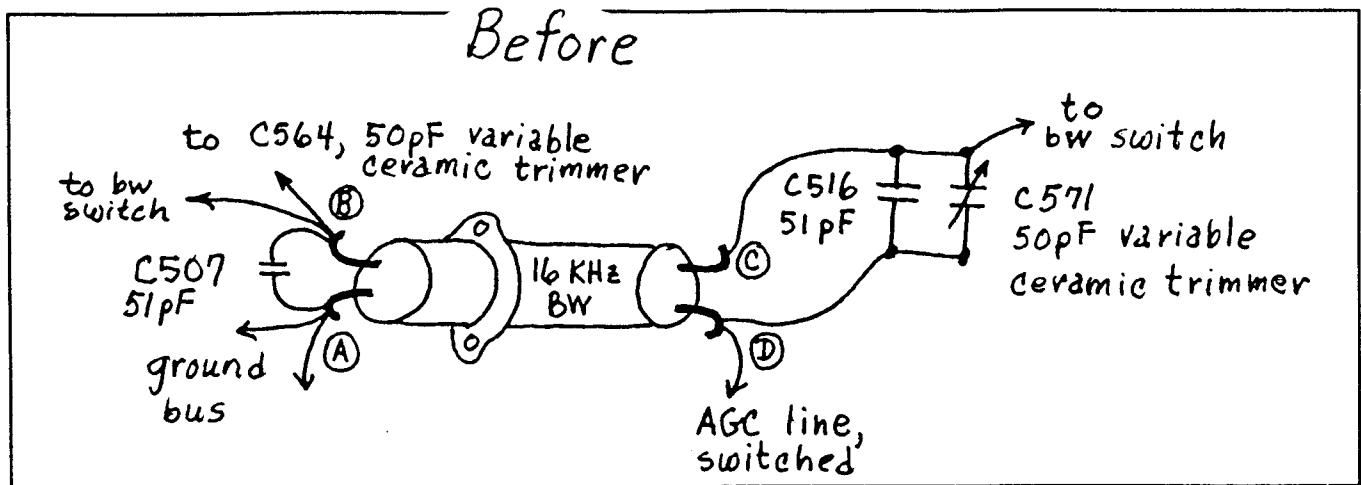
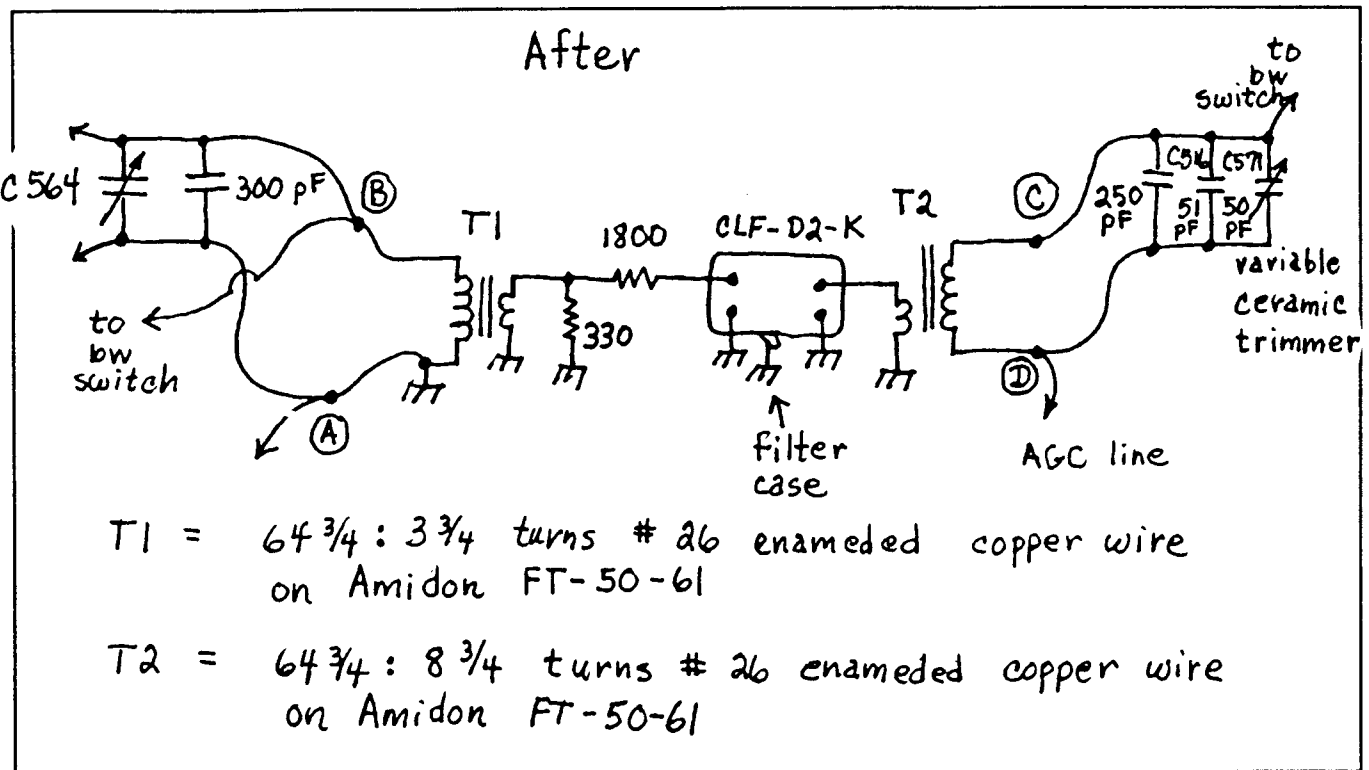

Figure 1
Figure 2
For a 3 KHz filter, I decided to use one of Kiwa Electronics (Craig Siegenthaler, 612 South 14th Avenue, Yakima, WA 98902, phone (509) 453-5492) CLF-D2-K filters. Putting this 3 KHz ceramic filter into an R-390A IF subchassis in place of the 16 KHz mechanical filter turned out to be a toughie. Two problems were encountered: reducing signal levels into the ceramic filter (the ceramic filter has much less loss than R-390A mechanical filters when properly impedance matched), and signal leakage. To equalize signal throughput, a resistor divider network was used ahead of the ceramic filter; see the "After" schematic - Figure 2. To eliminate signal leakage, a flange was fabricated from 0.015 inch copper sheet (copper gutter stock, available at sheet metal shops), tinned, and assembled with two etched PC boards so that the ceramic filter input and output pins were isolated from each other by the flange. The flange was made approximately the same size as an R-390A mechanical filter flange, so that the ceramic filter assembly could be bolted (just like an R-390A mechanical filter) into the vacated 16 KHz IF subchassis hole. The flange, with ceramic filter passing through it, also acts as an RF barrier to help shield the input and output impedance matching transformers T1 and T2 from each other.
As can be seen from the "Before" (Figure 1) and "After" (Figure 2) schematics, the 16 KHz mechanical filter was removed with C507 (51 pF) still attached to the mechanical filter pins. The other 51 pF fixed value (silver mica) capacitor was left in place, attached to the lugs of C571, the output 50 pF variable ceramic trimmer.
trimmer) to permit the primary of T1 to be tuned to resonance at 455 KHz using C564, and a 250 pF silver mica capacitor (actually 180 pF paralleled with 62 pF) was added (in parallel) to the lugs of C571 (the output 50 pF variable ceramic trimmer) to permit the primary of T2 to be tuned to resonance at 455 KHz using C571; see Figure 2.
the vacant mechanical filter hole, the remaining wires were attached (points A, B, C, and D on the schematics - Figures 1 and 2), and the 250 pF and 300 pF fixed silver mica capacitors installed at the lugs of the variable ceramic trimmers. To simplify installation, small pins about the same size as the mechanical filter pins were press-fitted and soldered to the two pairs of PC board pads at each end of the PC board. To conserve space, 330 ohm and 1800 ohm surface mount resistors were used (the PC board is laid out for surface mount resistors).
51J-4 PRODUCT DETECTOR UPDATE [Dallas Lankford] In *HSN #28* I remarked that I used a 2pF coupling capacitor from pins 6,7 of V110 to pin 7 of the 6BE6 (see Fig. 2 of that article) and an 8,200 ohm resistor from pin 7 of the 6BE6 to ground in order to equalize the audio levels between AM and SSB modes. Recently, after doing my fourth 51J-4 product detector modification, I found that in some 51J-4's, the 2 pF/8,200 ohm combination is not optimal. To achieve equalization of audio levels between AM and SSB modes for this fourth 51J-4, a variable 1-10 pF ceramic trimmer was used, and the required value turned out to be about 4 pF. Apparently there is enough variation from one 51J-4 to another to make it desirable to use a variable 1-10 pF ceramic trimmer in place of the fixed 2 pF ceramic capacitor so that audio levels between AM and SSB can be equalized.